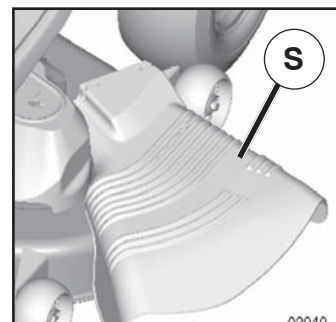

Fig. 20
CAUTION: Do not operate the mower without either the entire grass catcher, on mowers so equipped, or the deflector shield (S) in place (See Fig. 20).